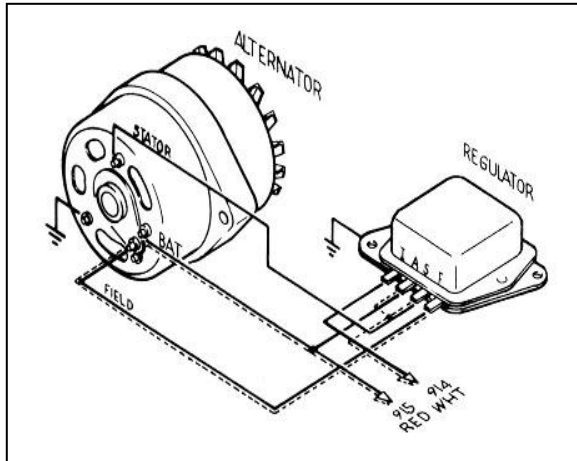

Figure 8-1A Ford Alternator (2 configurations)
- 8.1.5** An alternate (and less-used) method is to omit the Alternator Stator wire, install a 14-gauge jumper across Voltage Regulator terminals A & S, and connect wire #914 to either the A or S terminal of the Voltage Regulator. The FIELD wire and wire #915 are connected as above. Do **NOT** install a jumper as in **Paragraph 8.1.2**. The Voltage Regulator Ignition (I) terminal is not connected. Install ground wires as in **Paragraph 8.1.4**. This alternate configuration is illustrated in dashed lines in **Figure 8-1A**.